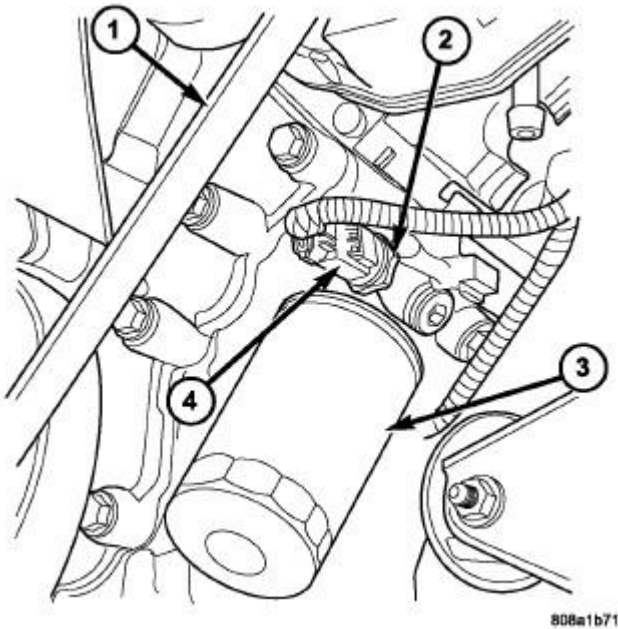

Fig. 122: Belt, Oil Pressure Sensor, Oil Filter & Connector
1. Remove oil pressure sending unit (2) and install gauge assembly (special tool #C-3292A, Gauge, Pressure). Refer to **Fig. 122**.